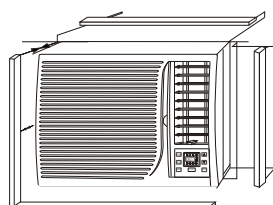
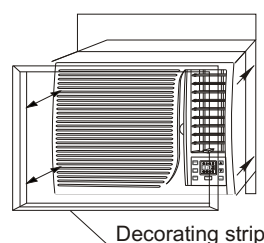

Fig.7
Fig.8
- The seal foam pads are employed to prevent outside air from leaking into the room (Fig.7) and the decorating strip is presented for aesthetical appearance as Fig.8.